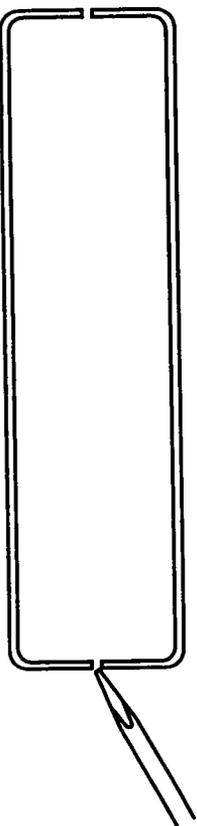
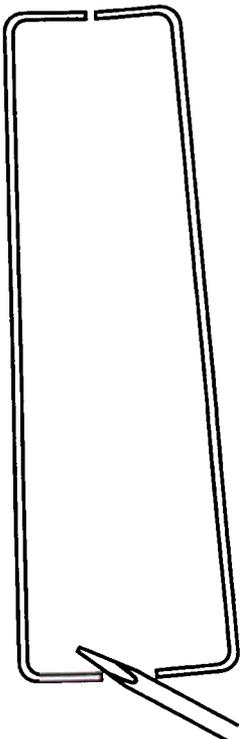

Figure 3-3. Inserting the screwdriver in the side of the MicroNTTU G.703.
Figure 3-4. Opening the MicroNTTU G.703's case.
- 3) Insert a flat-head screwdriver into an open slot on either side of the case, as seen in Figure 3-3. Twist the screwdriver head slightly and the top half of the case will separate from the lower half, as in Figure 3-4.